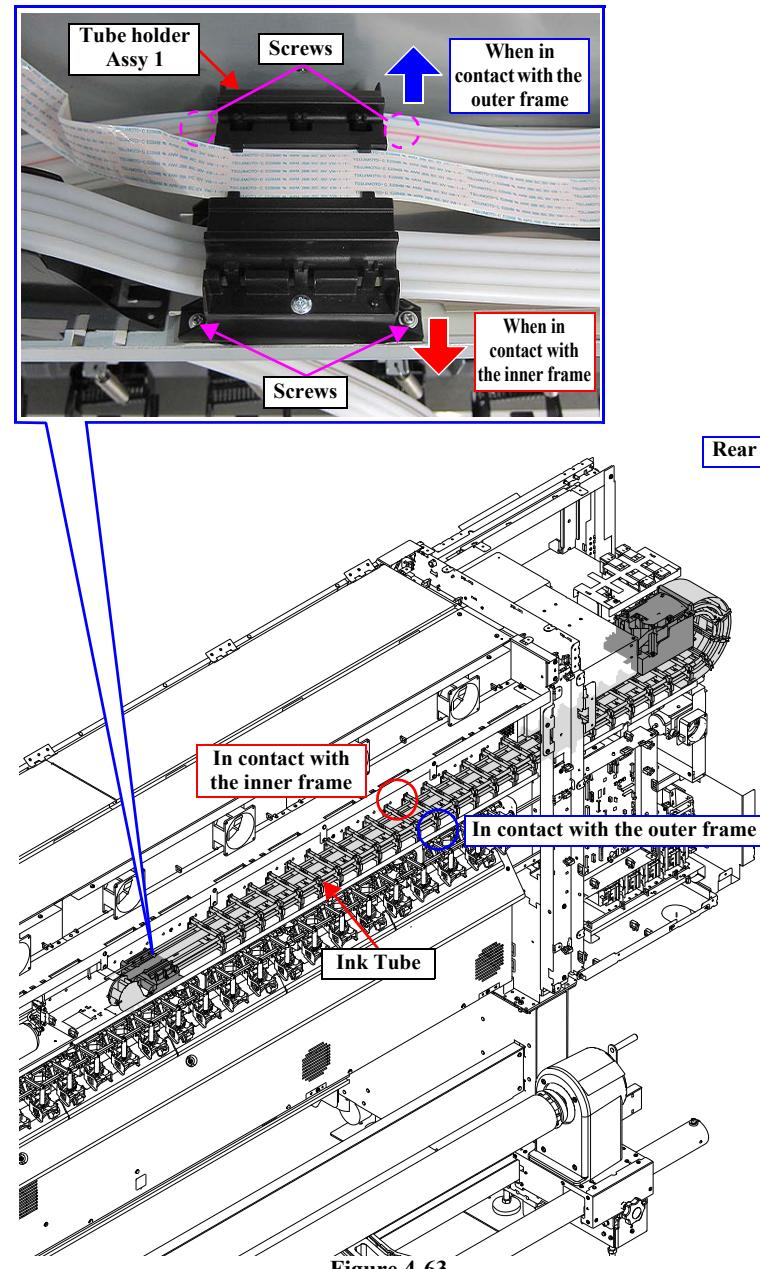

Figure 4-63.
4. If there is Confirm the rubbing sound, loosen the 4 screws of the tube holder Assy 1, and then move the Ink Tube in the direction of the arrow as shown Figure 4-63.